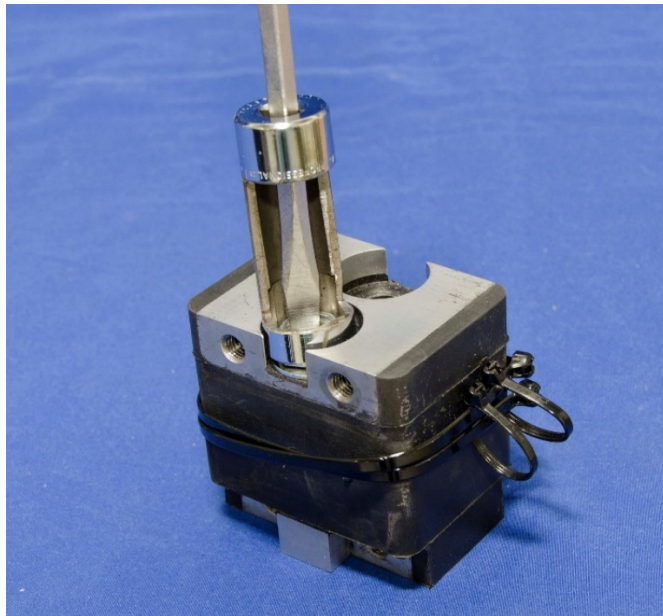

Figure 5-11. Install locknut to lumbar cable
- 5.2.2.3 Install an M12 x 1.75 Modified Locknut (472-3747) onto the threaded end of the lumbar cable (Figure 5-11). Position a screwdriver through the socket head in order to tighten the nut without turning the cable. Tighten the nut to contact plus half of a turn.